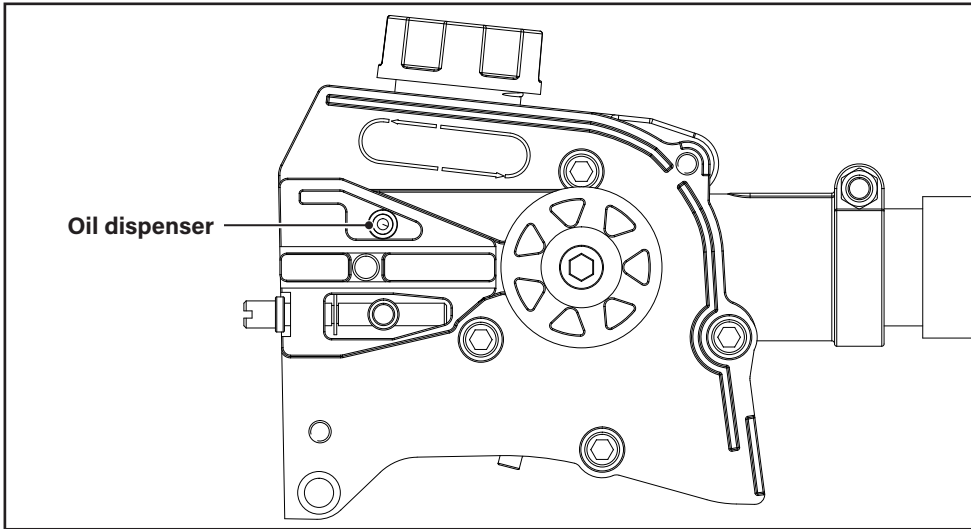

Fig. 21
2. Check the oil dispenser for clogging and clean if necessary to ensure proper lubrication of the guide bar and saw chain during operation. Use a soft wire small enough to insert into the oil dispenser (Fig. 21).